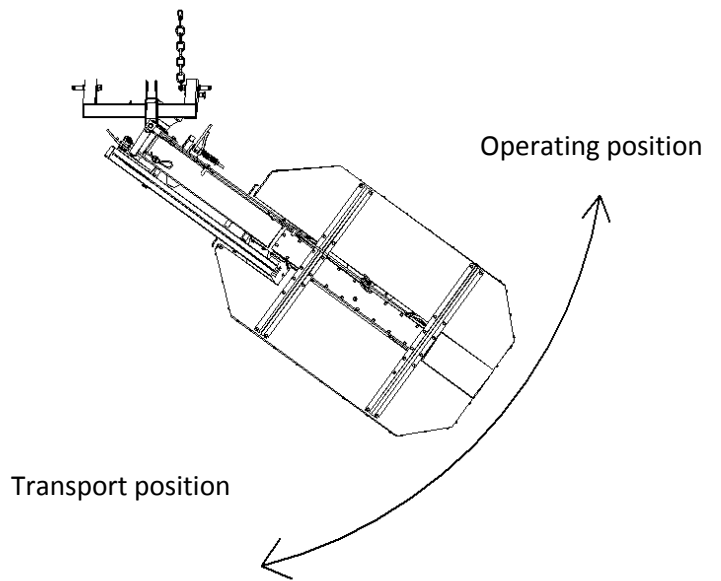

Figure 7 Transport/operational
6. Move the mower into the transport position manually (Fig. 7) so that the interlock pin is inserted into the yoke opening (the cord must be loose) (Fig. 8A).
5. Standing at the back of the machine, pull the cord thus removing the pin interlock from the yoke (Fig. 8B), then turn the mower into the operating position (Fig. 7).